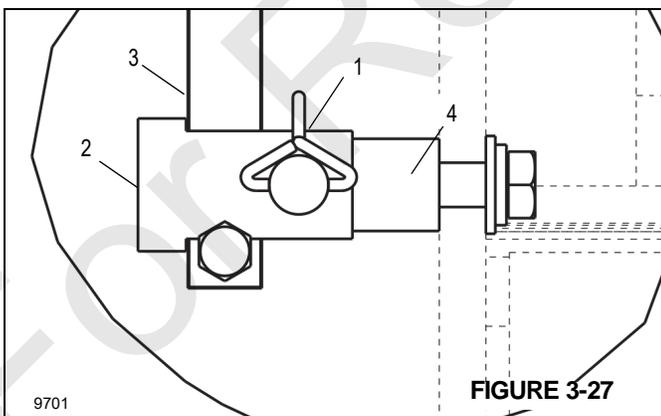

FIGURE 3-27
2. Remove the safety pin clip (1, Figure 3-27). Remove the pin.
3. Remove the bushing (2) from the anemometer mast (3) and rod keeper (4).
4. Remove the anemometer mast (3) from the rod keeper (4).
5. Re-Install the bushing (2) and safety pin (1) on the rod keeper (4).
2. Install the anemometer mast (3, Figure 3-27) on the rod keeper (4).
3. Install the bushing (2) over the mast (3) and rod keeper (4). Align the bushing and keeper holes so the safety pin can be installed.
4. Install the safety clip (1) in the bushing (2) and keeper holes (4). Secure the pin (1) with the safety clip.